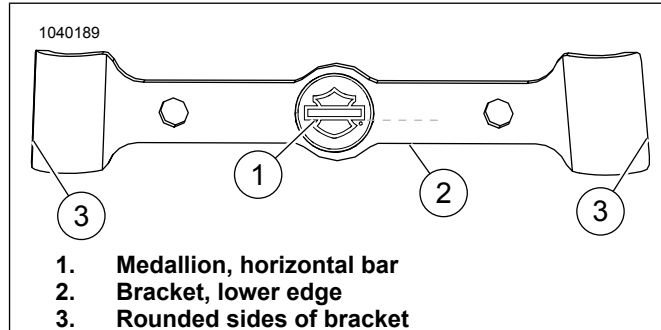

Figure 3. Medallion Alignment
- See Figure 3. Side of bracket (3) are not symmetrical. Width at top is narrower than width at bottom.
- See Figure 3. Align medallion horizontal bar (1) with lower edge (2) of bracket. These two must be parallel.
- See Figure 3. Sides of bracket (3) are not symmetrical. Width at top is narrower than width at bottom.
3. See Figure 3. Remove adhesive backing from left and right sides of bracket (3).